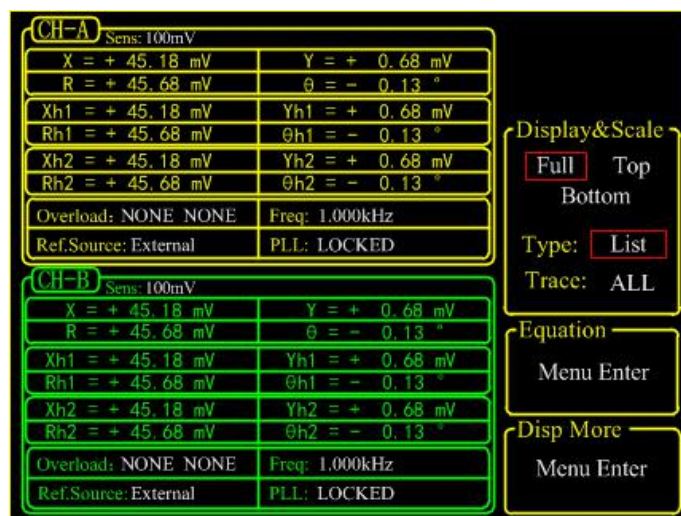

Fig.25 <Full>-<List> Display
3) <List>: display the value of the fundamental wave and two harmonics of the input signal at the same time. The interface is shown in Fig.25.